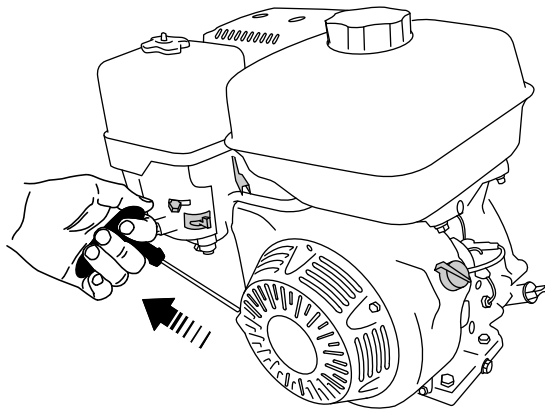

Figure 30
6. Pull the recoil-start handle lightly until you feel resistance, then pull the handle briskly. Return the recoil-start handle gently (Figure 30).